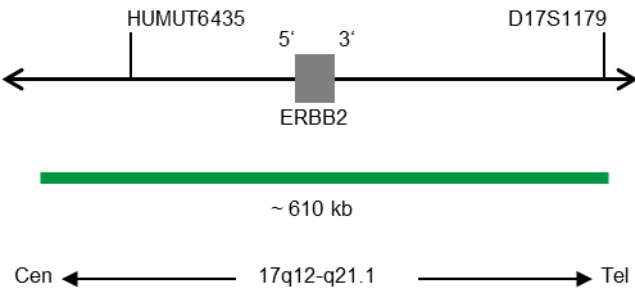

Fig. 1: SPEC ERBB2 Probe map (not to scale)
- ZyGreen (excitation 503 nm/emission 528 nm) labeled polynucleotides (~10.0 ng/μl), which target sequences mapping in 17q12-q21.1* (chr17:37,572,531-38,181,308) harboring the ERBB2 gene region (see Fig. 1).